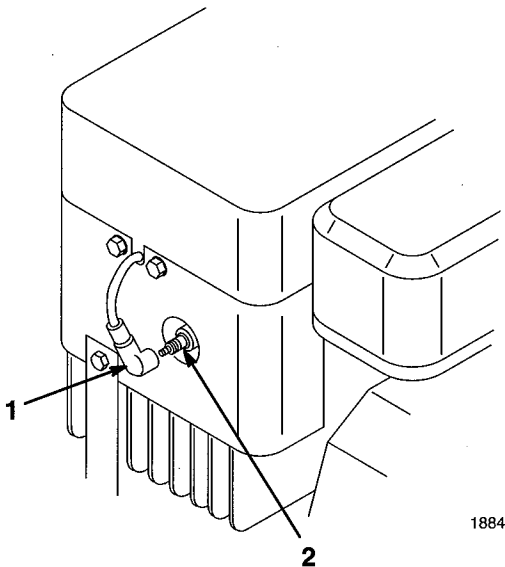

Figure 20
3. Pull the wire off the spark plug (Fig. 20). Now clean around the spark plug to prevent dirt from falling into the engine and potentially causing damage.
3. Push the wire onto the spark plug (Fig. 20).